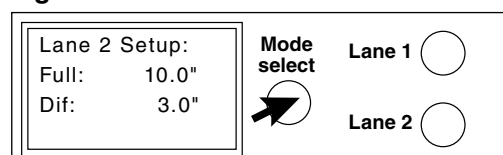

Fig. 4
2. Press LANE 1 button to move through FULL, MIN and DIF ice level sensor settings. When selected, choice will flash (Fig. 4).